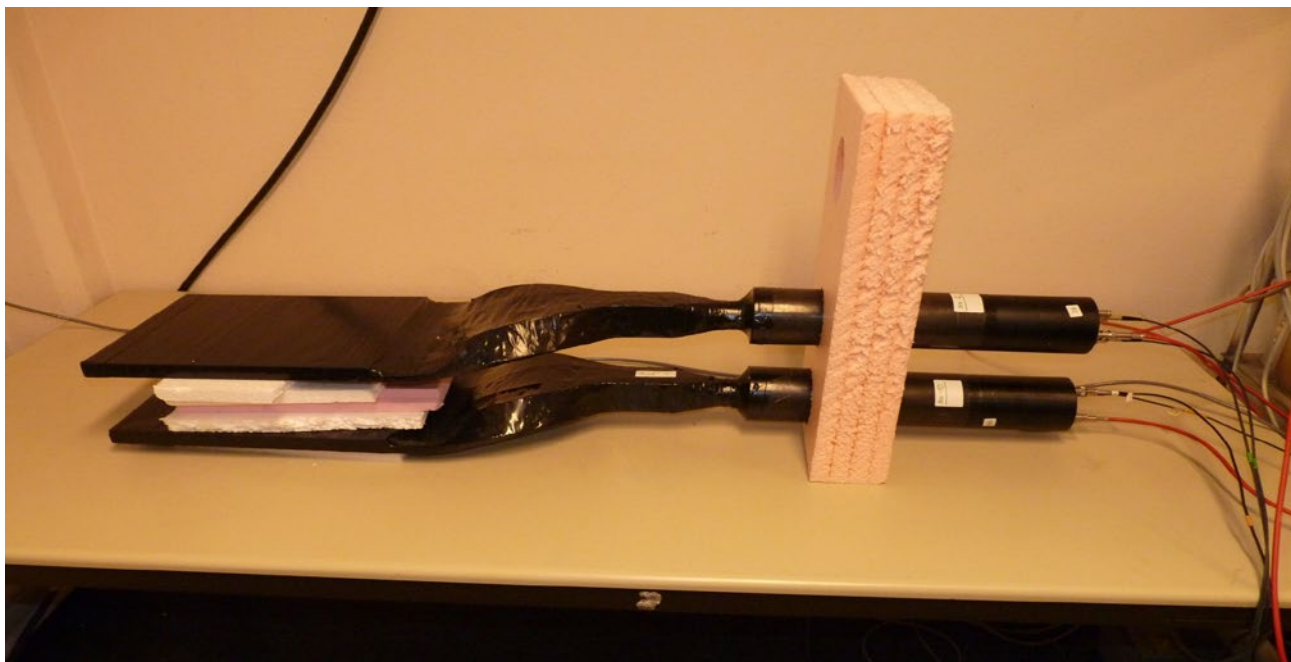

Figure 2. Scintillation counter setup
Through a light guide the photons are transmitted directly or indirectly via multiple reflections to the surface of a photomultiplier (PM), the photocathode, where the photons are converted to electrons. The PM multiplies the electrons resulting in a current signal that is used as an input to an electronics system. The PM is shielded by an iron and mu metal tube against magnetic fields (of the Earth). The scintillator and light guide are wrapped in black tape to avoid interference with external light. The scintillation counter setup is shown in Figure 2. Scintillation counter setup2.